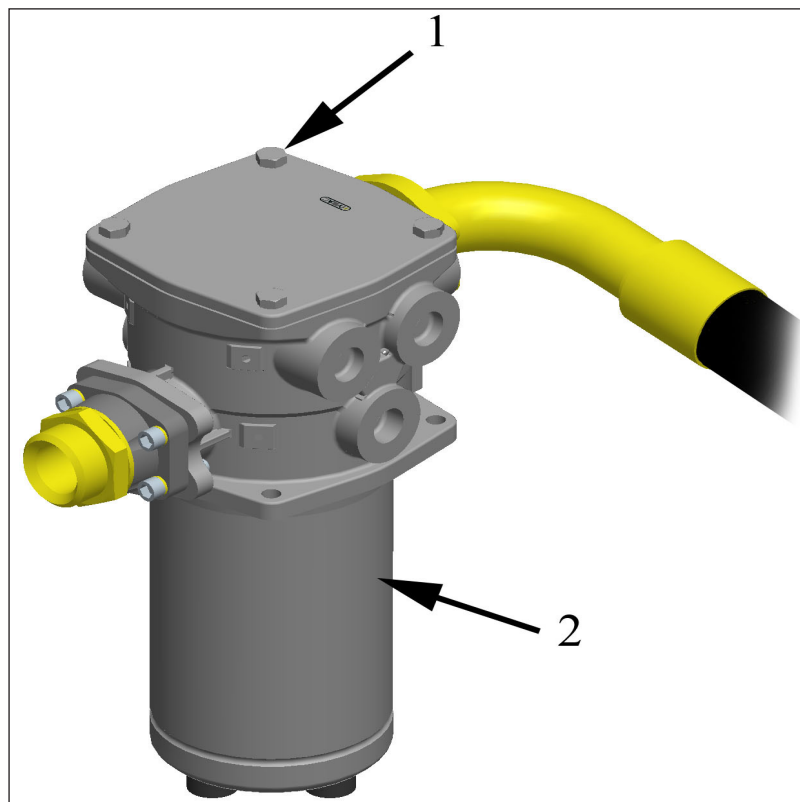

Figure 6.15 - Hydraulic Filter Housing
4. Take off filter cap by removing 4 bolts (item 1) Figure 6.15, making sure all times that dirt is prevented from entering the tank.
5. Remove Hydraulic filter element from inside the filter housing (item 2).